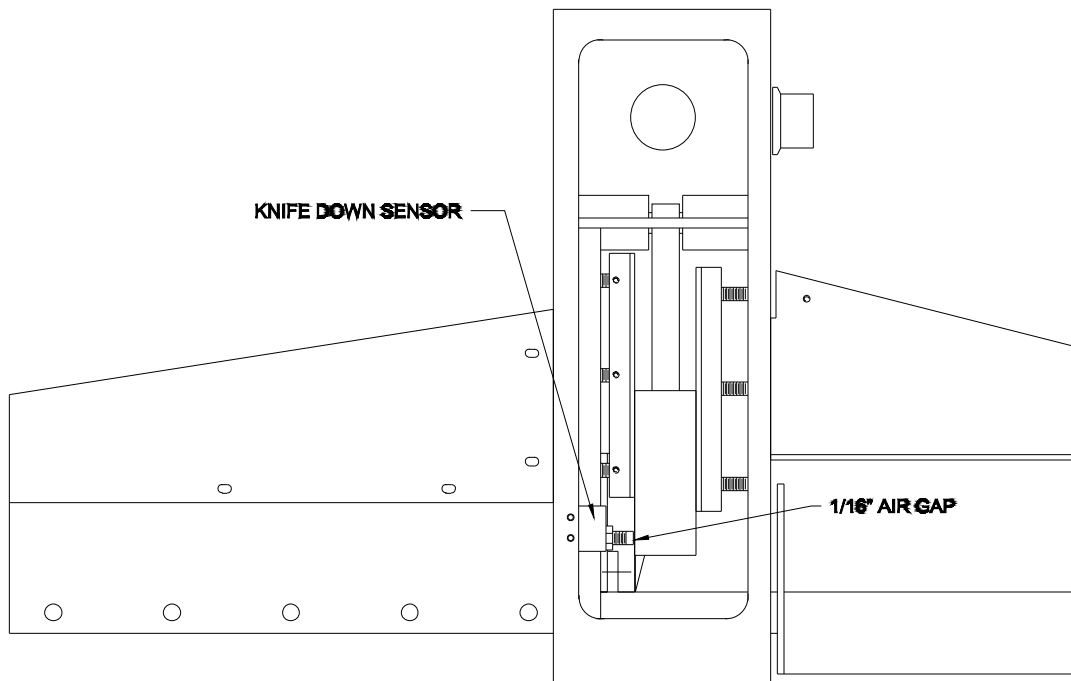

Fig 22
1. Turn the "MAIN POWER SELECTOR" switch to "ON" and allow the MPS to reset. Turn the "MAIN POWER SELECTOR" switch to "BLADE ADJUST". Press the two (2) black cut buttons to start the main motor.
2. Press and hold the two (2) black cut buttons until the blade beam is at the bottom and the main motor turns off.
4. Remove the left side access panel. The sensor is inside the frame. Fig. 22.